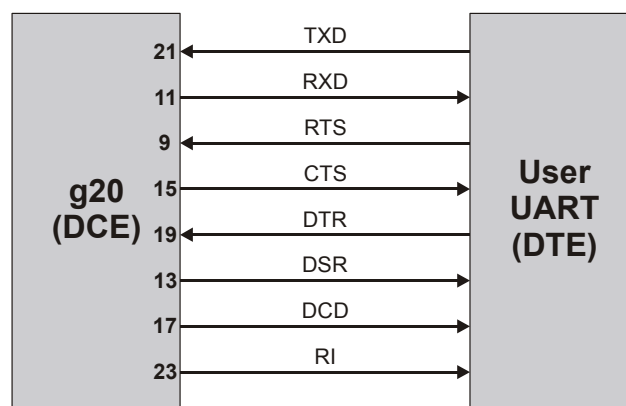

Figure 12. g20 RS232 Interface
- The g20 is a DCE device. Applicable line terminology is shown in Figure 12.